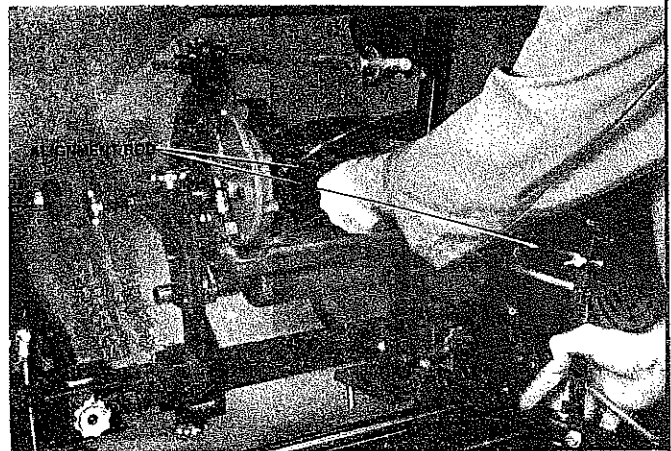

FIG. 68
- D. Now move the alignment fixture to the left side of the reel making sure to pull back on the alignment rod so it will clear reel as gage is moved from one position to the other. (See FIG. 68)